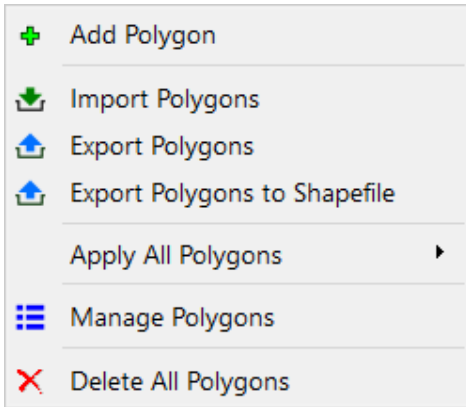
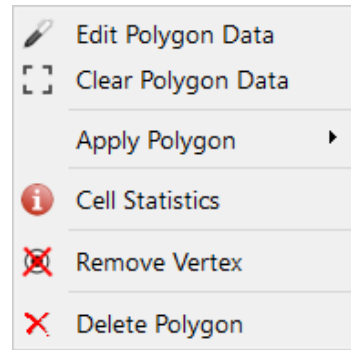

Figure 21. The Polygons Menu
Figure 22. The Polygon Data Menu
To assist in editing polygons, the Polygon Tool has two popup menus—the Polygons menu (Figure 21) and Polygon Data menu (Figure 22). The Polygons menu contains functions related to all polygons and can be opened by right-clicking on the Map Viewer. The Polygon Data menu contains functions related to an existing polygon and can be opened by right-clicking on a vertex of that polygon. The functions of these menus are given below.
1. Polygons menu (Figure 21)
2. Polygon Data menu (Figure 22)